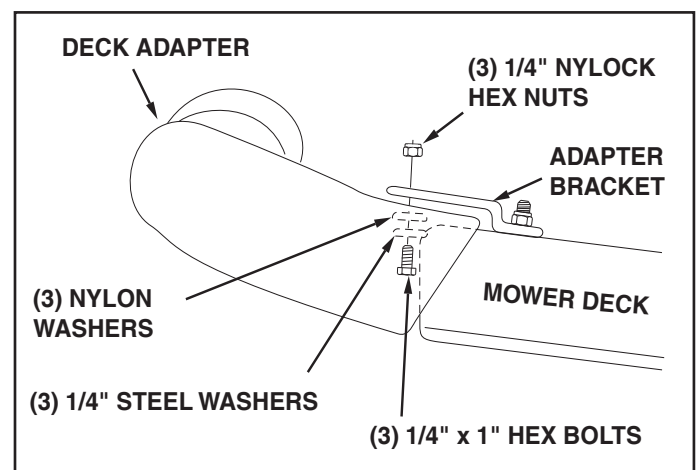

FIGURE 17
- With deck adapter positioned correctly over the discharge opening, use the adapter bracket as a template and drill three 9/32" diameter holes in the top of the deck adapter. See figure 17.
- Bolt deck adapter to bracket using three 1/4" x 1" bolts, nylon washers, 1/4" flat washers and 1/4" Nylock hex nuts. Nylon washers should be against the inside of the deck adapter. See figure 17.